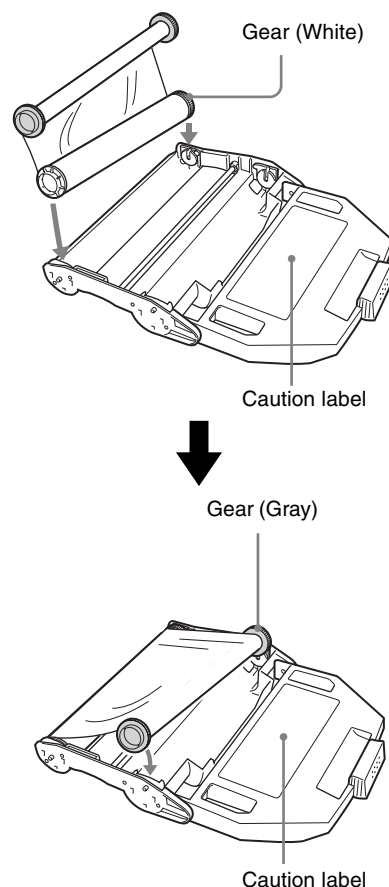

Figure 3.6
- 5** Firstly, firmly secure the white gear in the ink ribbon, and then the gray gear (see Figure 3.6).